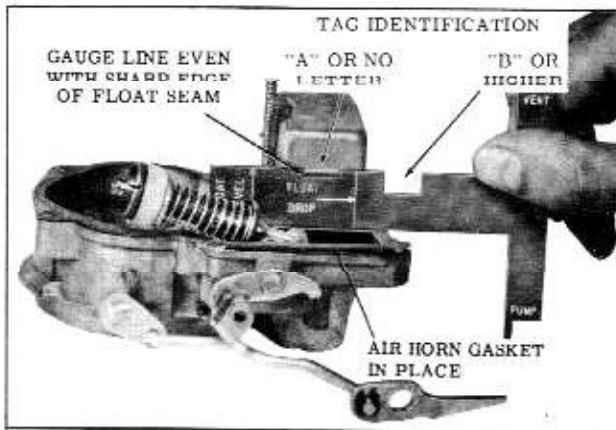

Fig. 8-144 Float Level Adjustment
1. Make sure the float is properly aligned on the air horn. If it is necessary to bend the float arm for alignment purposes, recheck the float level setting. (Fig. 8-144)